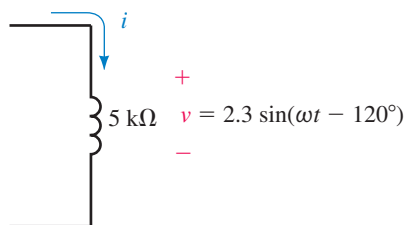

FIGURE 18-81
6. For the component shown in Figure 18-81: